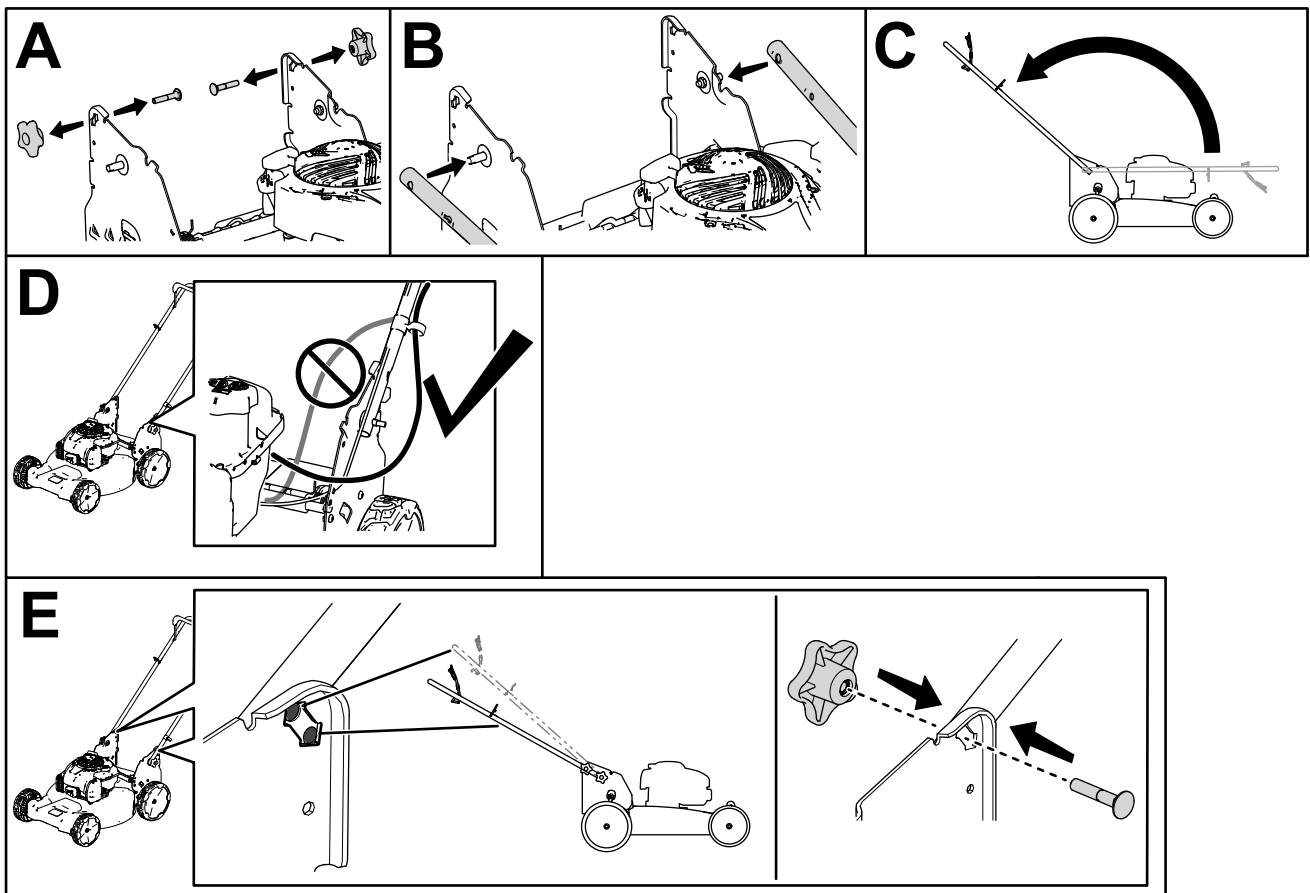

Figure 3
1. Remove the handle knobs and carriage bolts from the handle brackets (A of Figure 3).
2. Attach the handle to the machine using the holes at the end of the handle (B of Figure 3).
3. Move the handle rearward to the operating position (C of Figure 3).
4. Ensure that the cables are routed to the outside of the handle (D of Figure 3).
5. Secure the knobs and carriage bolts to lock the handle into the operating position (E of Figure 3).